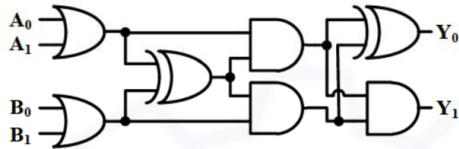

Fig. 4.19
37. In the circuit shown below in Fig. 4.19,  $Y$  is a 2-bit ( $Y_1Y_0$ ) output of the combinational logic. What is the maximum value of  $Y$  for any given digital inputs,  $A_1A_0$  and  $B_1B_0$  ? (GATE BM 2021)